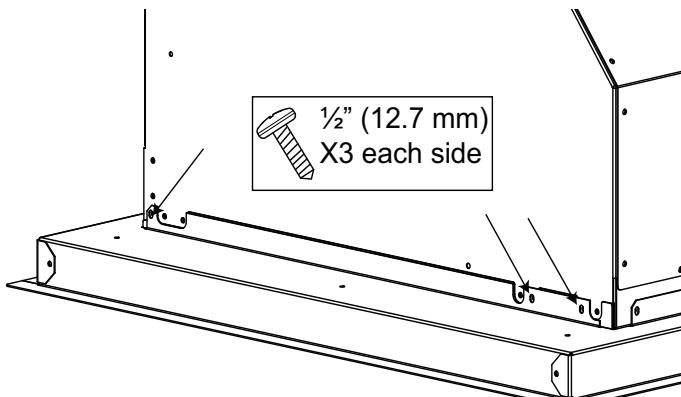
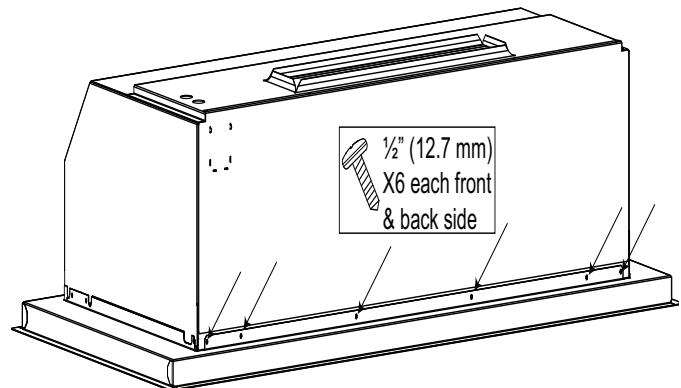

Figure 3: VCIN Secure Liner Sides
Figure 4: VCIN Secure Liner Front & Back
3. Secure the liner to the hood with eighteen (18)  $\times \frac{1}{2}$ " (12.7 mm) screws, as indicated in *Figure 3* and *Figure 4*.